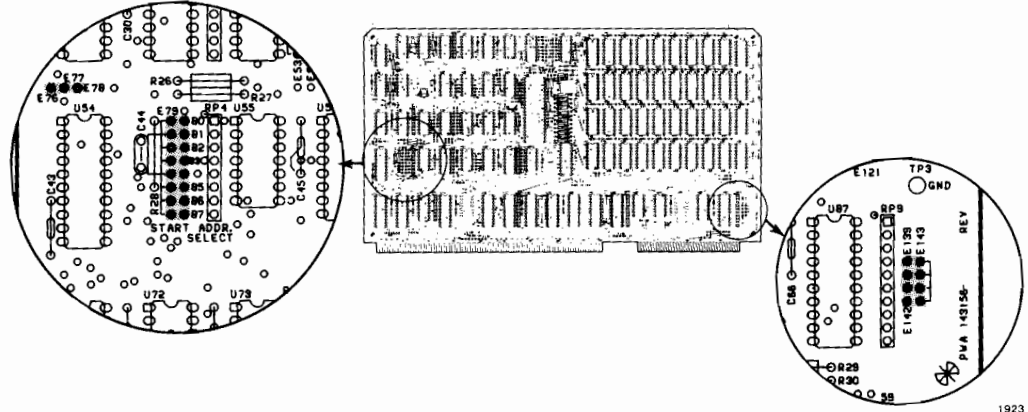
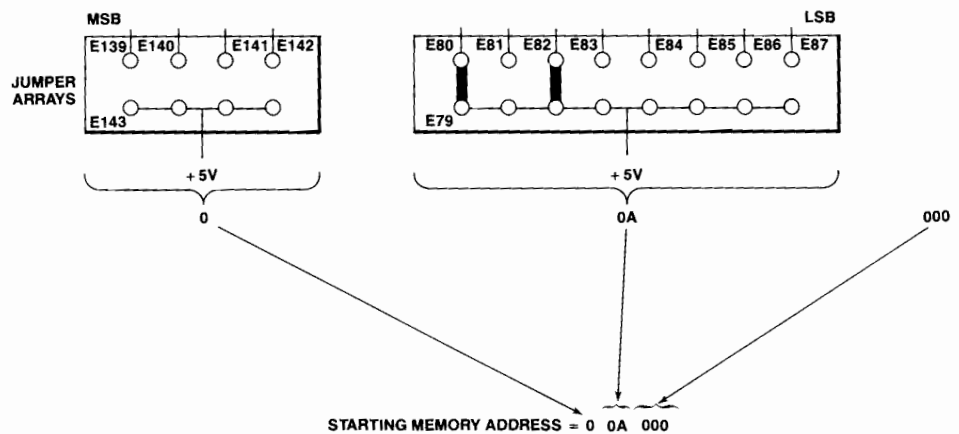

Figure B-7 Jumper Locations on the iSBC® 056 Memory Board
Figure B-8 Second iSBC® 056 Jumper Settings (Series IV Model 44X)
2. Ensure that the starting address is set to 384K (060000H) on the iSBC 056 board as shown in Figure B-6. The jumper locations are shown in Figure B-7.
4. Set the starting address jumpers to 640K (0A0000H) on the second iSBC 056 board. The jumpers are shown in Figure B-8; their locations are shown in Figure B-7.